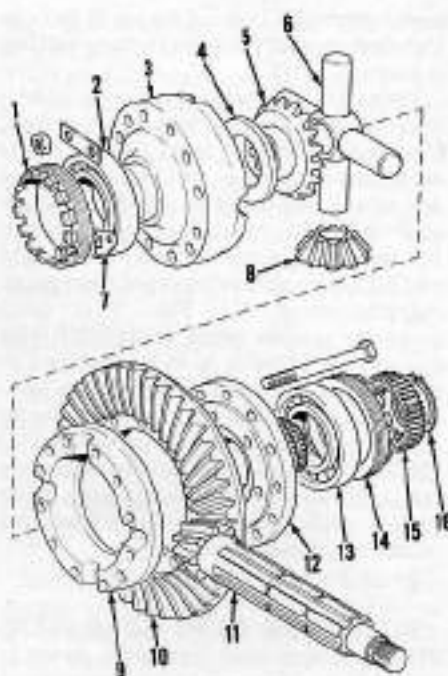

Fig. 175—Exploded view of four pinion gear differential assembly showing component parts and their relative positions.
Model 1690 is equipped with a four spider gear (8—Fig. 175) differential which utilizes a slightly different differential lock mechanism.
319. Mark positions of outer carrier half (3 - Fig. 175), inner carrier half (9), bevel ring gear (10) and end plate (12) for reassembly and remove axle gear (5), cross (6) and four pinion gears (8) and remaining axle gear. Remove thrust washers (4) from each axle gear. Remove inner carrier half (9), bevel ring gear (10) and end plate (12). Remove snap ring (16) and gear (15).
320. Inspect all gears for wear, chips or damage. Pinion shaft (11 - Fig. 175) and bevel ring gear (10) are matched and must be renewed in matched sets only. Thrust washers and mating surfaces must be smooth and free of scores or excessive wear. Examine pinion gear cross (6) for wear on pinion gear running surfaces. Inspect carrier bearings for roughness or wear. Renew parts as needed.